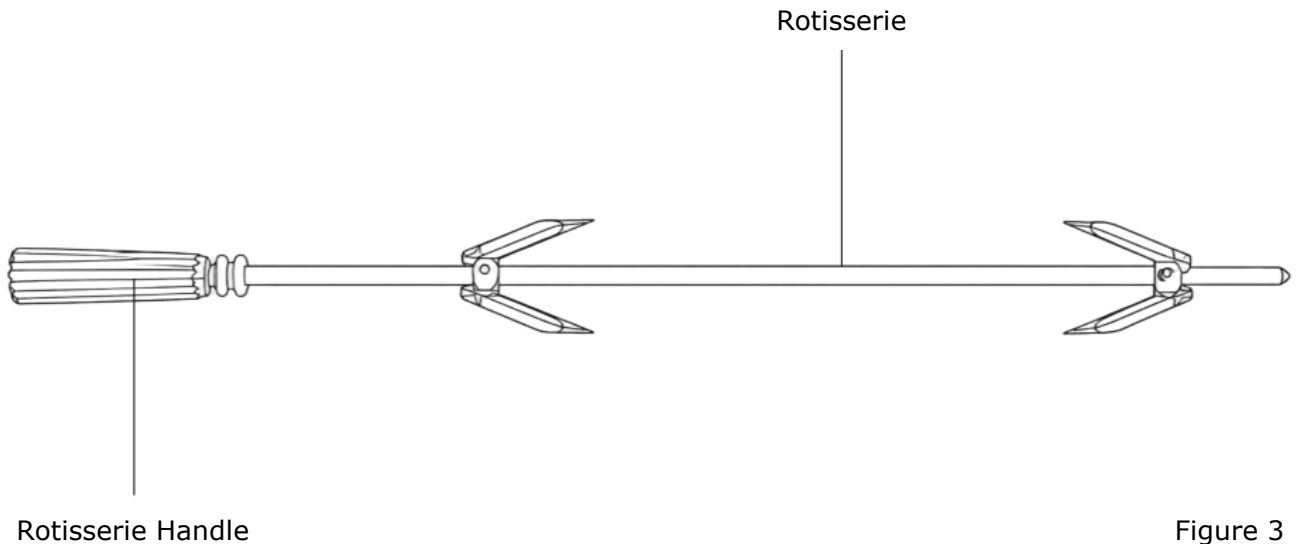

Figure 3
4. Use the Rotisserie Handle to remove the rotisserie after use to avoid burns. (Figure 3)